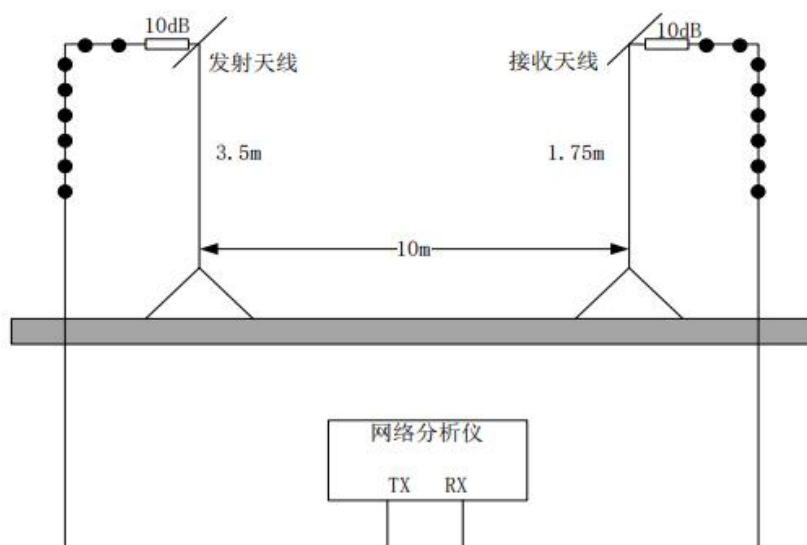

Figure 3: Layout of antenna gain measurement
- 1) Install the tested antenna in a free space, and the connection arrangement between the tested antenna and the measurement system is shown in Figure 3;